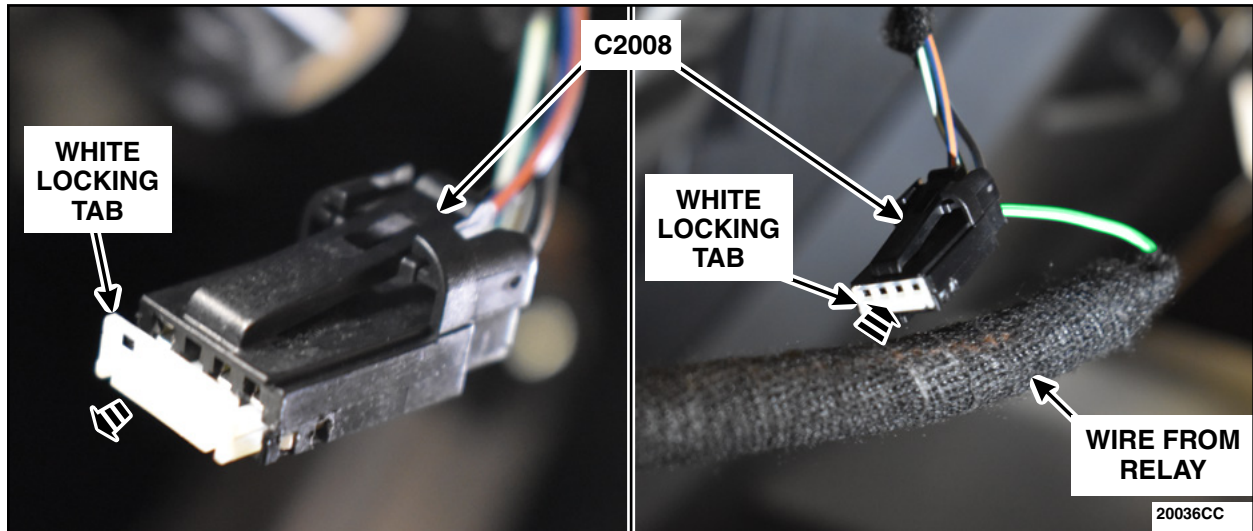

FIGURE 30
48. Disengage the white locking tab on C2008. Install the wire from the relay into the open cavity of C2008. Engage the white locking tab. See Figure 30.